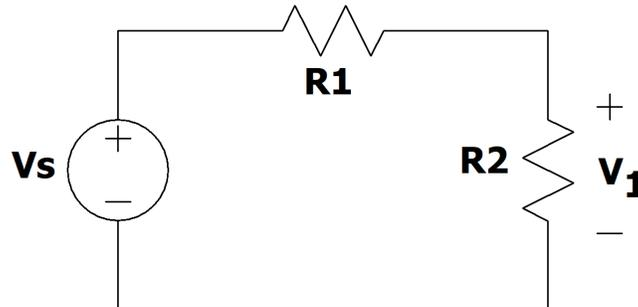

Figure 3. Voltage divider circuit
11. For the circuit of Figure 3 find an equation for voltage V_1 in terms of V_s , R_1 and R_2 .
12. Construct the circuit of Figure 3 for $R_1=R_2=1k$.
15. Construct the circuit of Figure 3 for $R_1=R_2=100k$.